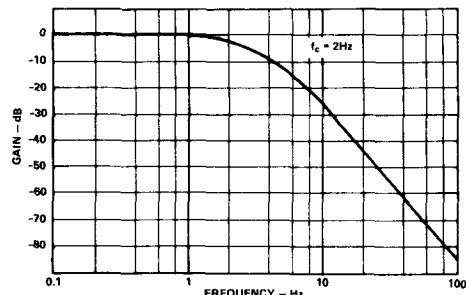

Figure 11. Filter Amplitude Response vs. Frequency
**Low Pass Filter:** The three pole Bessel-type active filter attenuates unwanted high-frequency components of the input signal above its cutoff frequency ( $-3\text{dB}$ ) with  $60\text{dB}/\text{decade}$  roll-off. With a 2Hz filter, attenuation of  $70\text{dB}$  at  $60\text{Hz}$  is obtained, settling time is  $600\text{ms}$  to  $0.1\%$  of final value with less than  $1\%$  overshoot response to step inputs. Figure 11 shows the filter response.